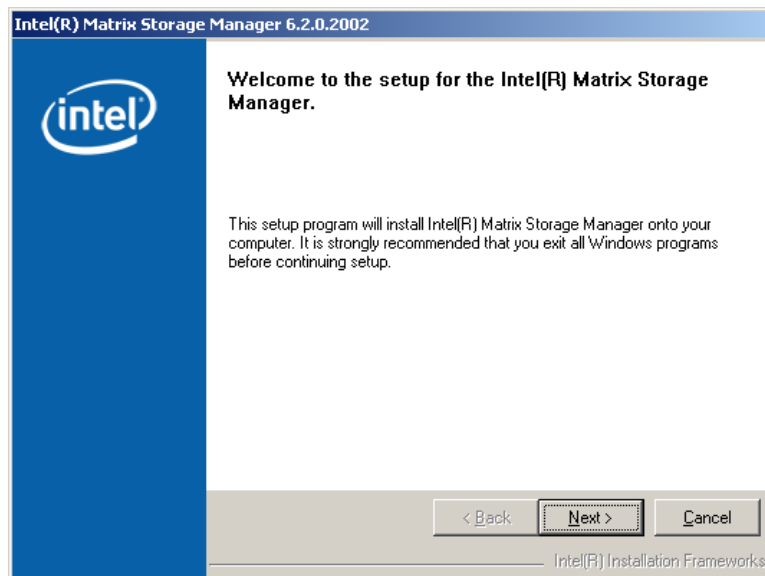

Figure 7-28: Matrix Storage Manager Welcome Screen
Step 7: Figure 7-28 shows the Matrix Storage Manager welcome screen.